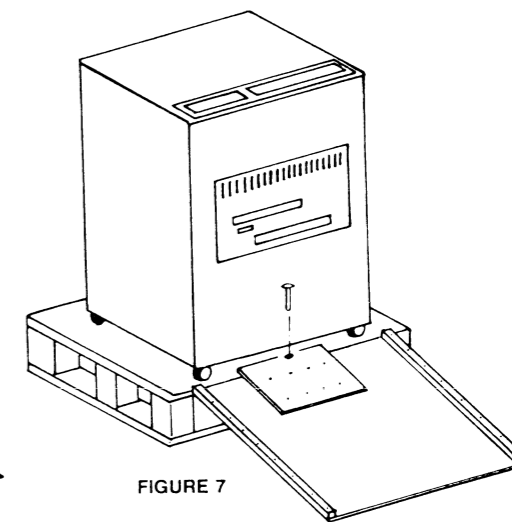

FIGURE 7
6. Install the ramp as shown in Figure 7 and roll the printer off the pallet. Move the printer to the user's location.